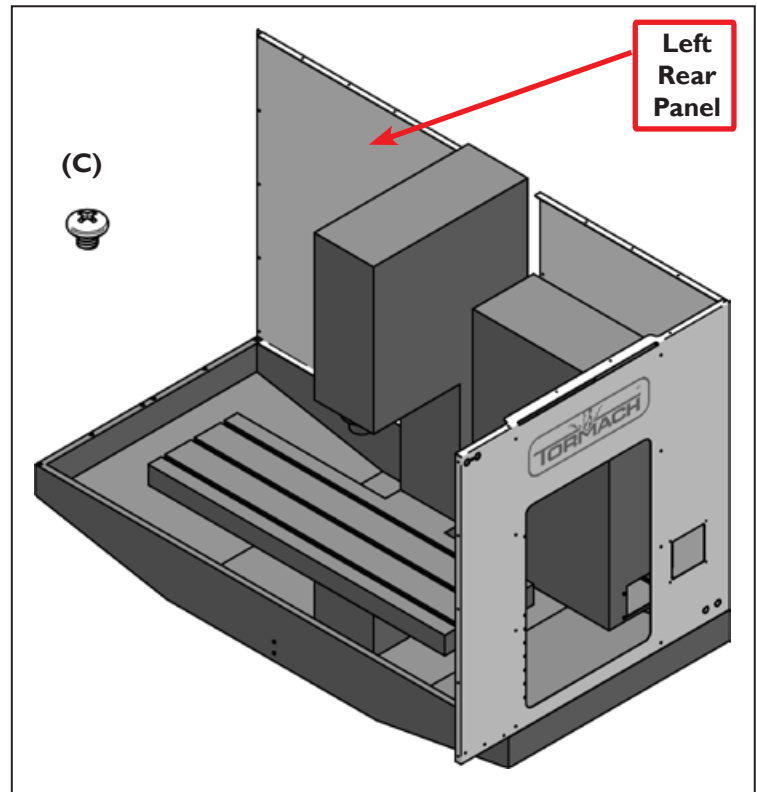

Figure 5
12. Place the Left Rear Panel (E.24) on top of the left rear side of the machine stand (see **Figure 5**).